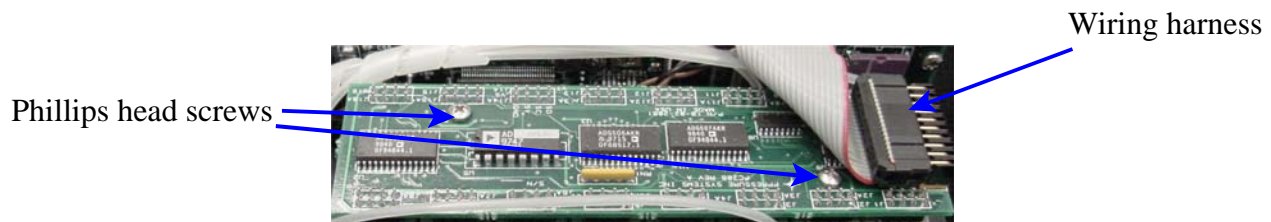

Figure 5
- (1) Carefully remove the wiring harness from connector P1 of the PC-206 board. (See **Figure 5**.)
- (2) Remove the two (2) Phillips-head screws securing the PC-206 board to the DH200 transducers. Carefully disconnect the PC-206 board from the DH200s by slowly working the board off; starting at one end and moving down the length of the board. It is important to not break the gold pins when removing the board. Inspect the PC-206 boards for broken pins and remove from DH200 transducers, if necessary.